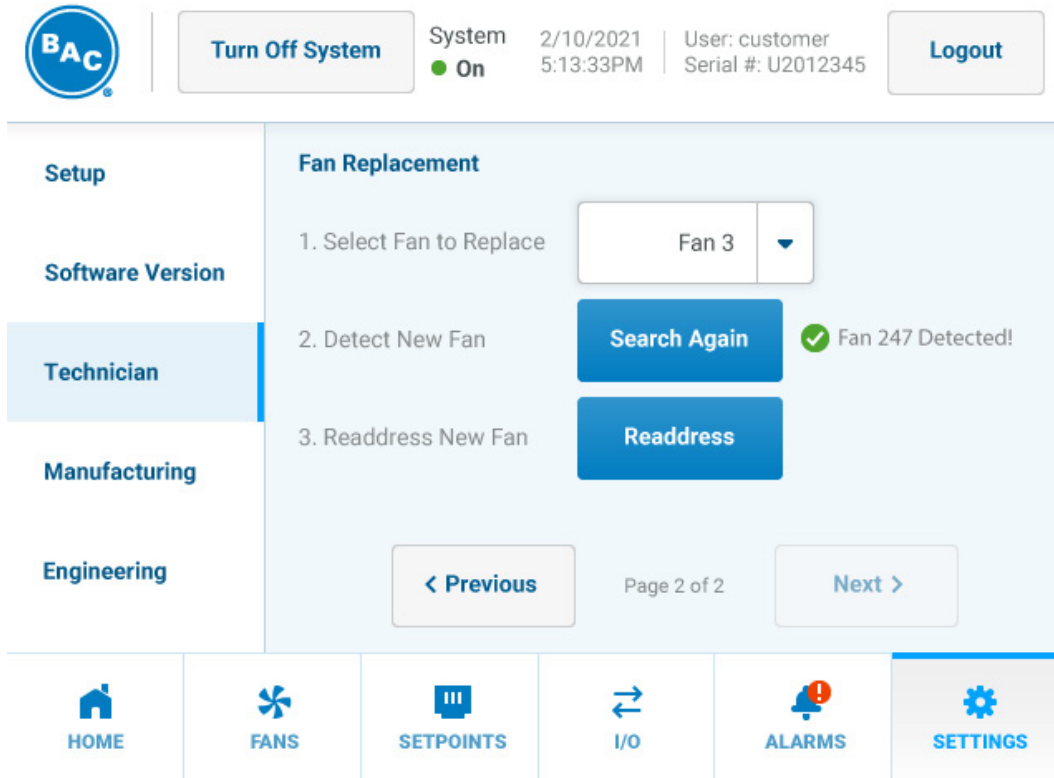

Figure 171. Settings Menu, Technician Page 2 of 2 Fan Detect
10. When the new fan has been detected, a green checkmark icon will appear as shown in **Figure 171**. Press the “Readdress” button. Next press the “Readdress Fan” button to confirm readdress. The selected fan will be readdressed.